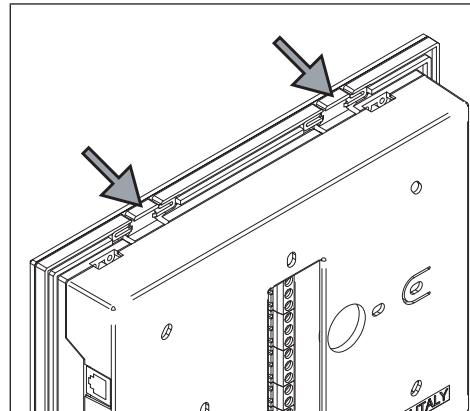
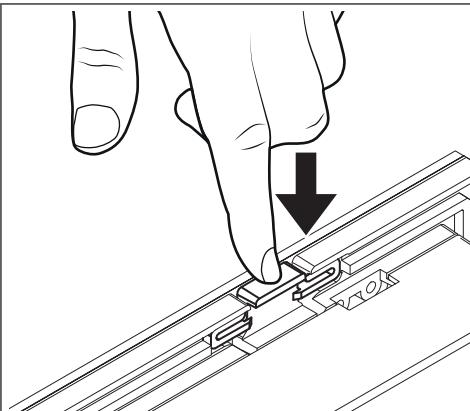
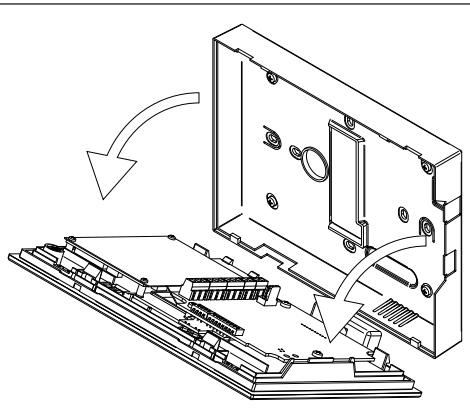

Fig. 1
Fig. 2
Fig. 3
1. To install the videophone, it is necessary to remove the back cover. Apply pressure to the two clips indicated by the grey arrows (**Fig. 1**) using fingers (**Fig. 2**) while lightly pulling the upper part in the direction of the white arrows (**Fig. 3**).